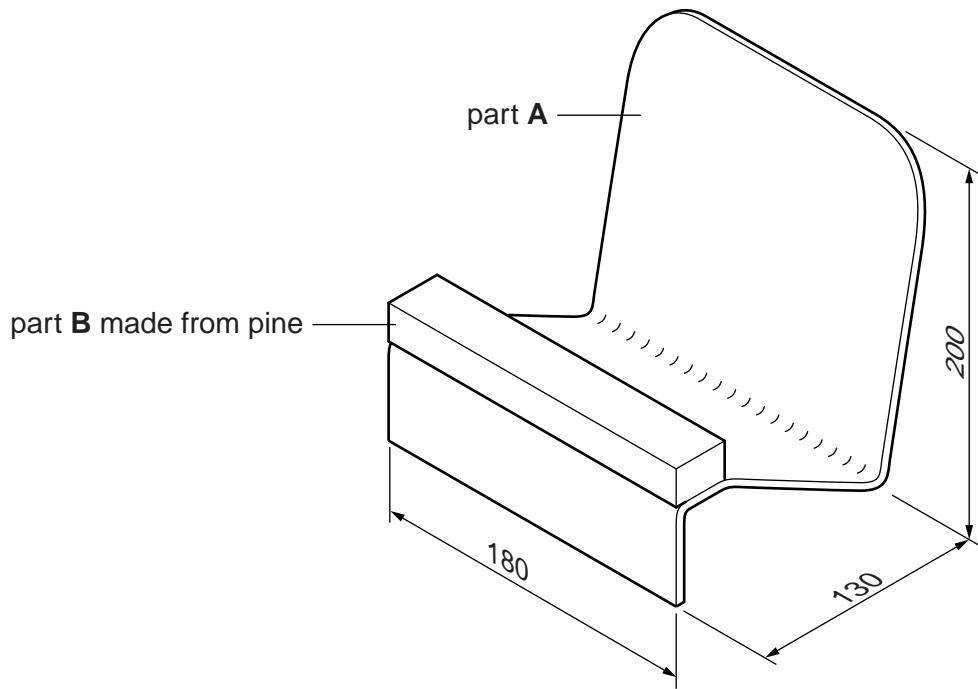

Fig. 3
- 3 Fig. 3 shows a book rest which is to be made in a school workshop.